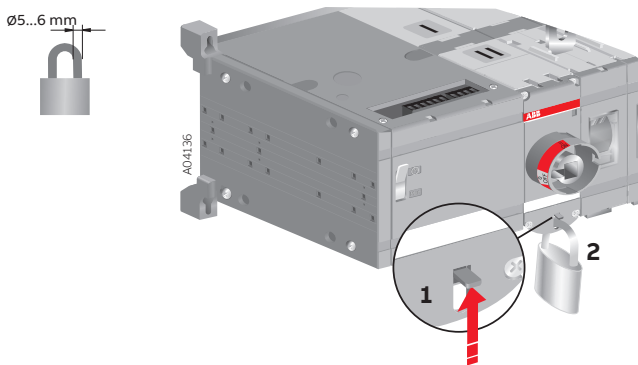

Figure 8.7 Locking the electrical operation
2. Place the padlock under the latch, see Figure 8.7.